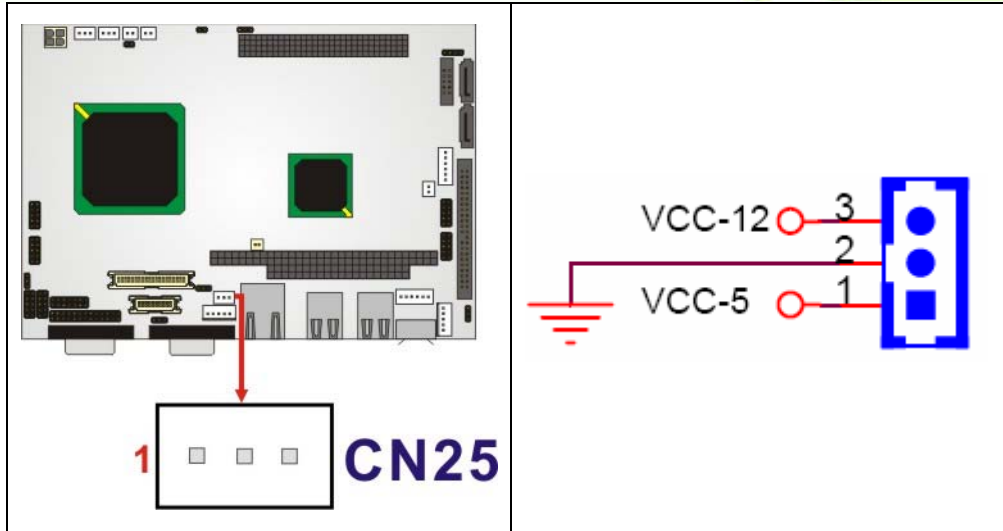

Figure 4-21: CN25 Connector Location
- CN Location:** See Figure 4-21